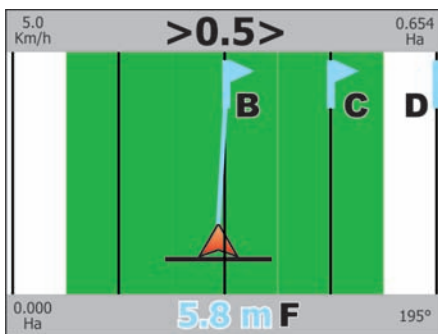

Fig. 285
- When you reach the track with the "Waypoint", the display shows the distance between your position and the point (**F** Fig. 285).